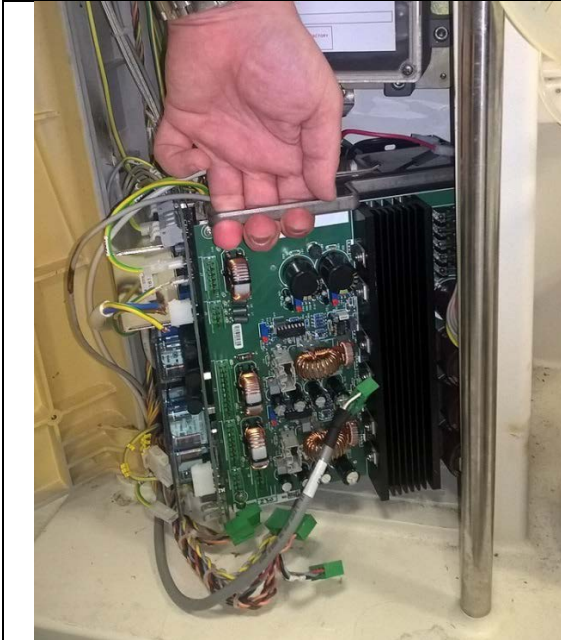

Fig. 7
- Grab the PSU using the metal handle welded to the box (**Fig. 7**);